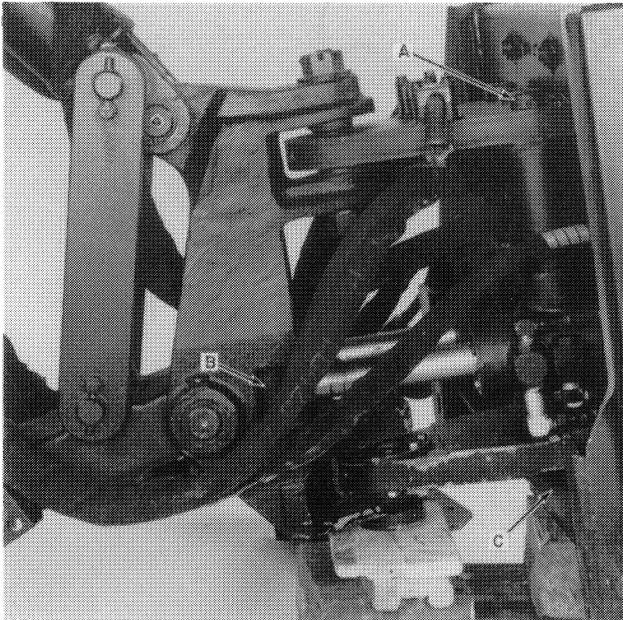

FIGURE 2-16
- a. Remove the pivot pin from the piston rod end, B, Figure 2-16.